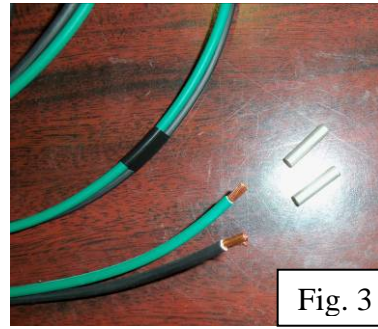

Fig. 3
4. Cut the red, green, and black wires to length once mounted in place (Fig. 3 & 5).
5. Attach the green wire to the positive fan wire and the black wire to the ground of the fan using the supplied connectors and heat shrink (Fig. 3).